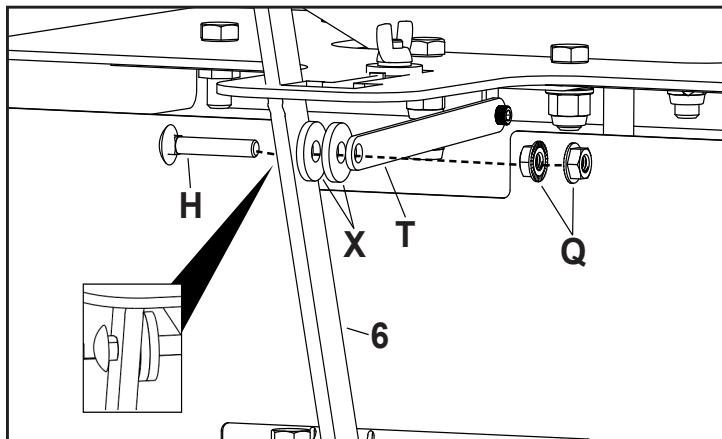

FIGURE 5
STEP 5: (SEE FIGURE 5)
- Install a 1/4" x 1-1/2" carriage bolt (H) through the right side of the lower handle (6). The carriage bolt head will stick out as shown in Figure 5)
- Install two 3/4" nylon washers (X) onto the bolt and then install the connector bracket (T) onto the bolt.
- Install a 1/4" flange nut (Q) head first onto the bolt and then install another 1/4" flange nut (Q) flange first.
- Tighten the the two 1/4" flange nuts (Q) together.